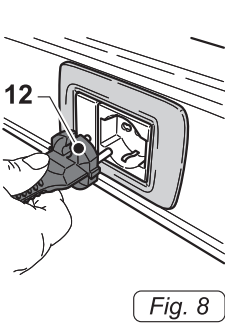

Fig. 8
- Insert the plug (12 Fig.8) into the socket.
- Remove the plug (12 Fig.8) from the socket.